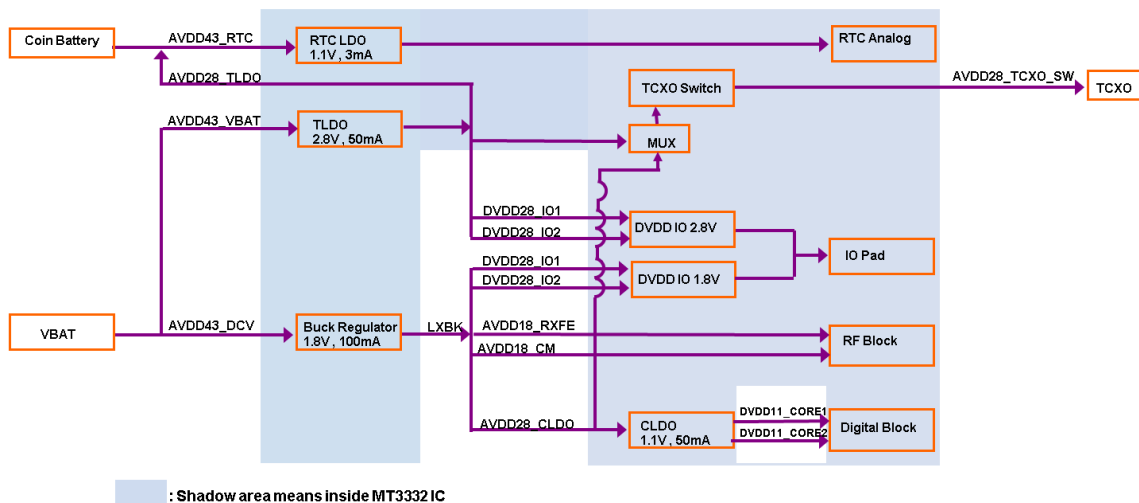
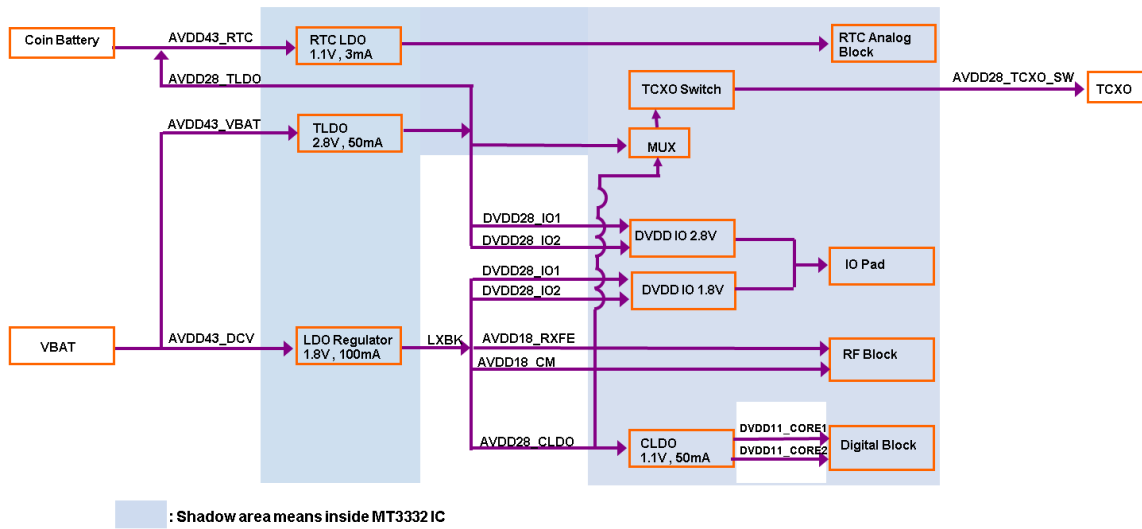
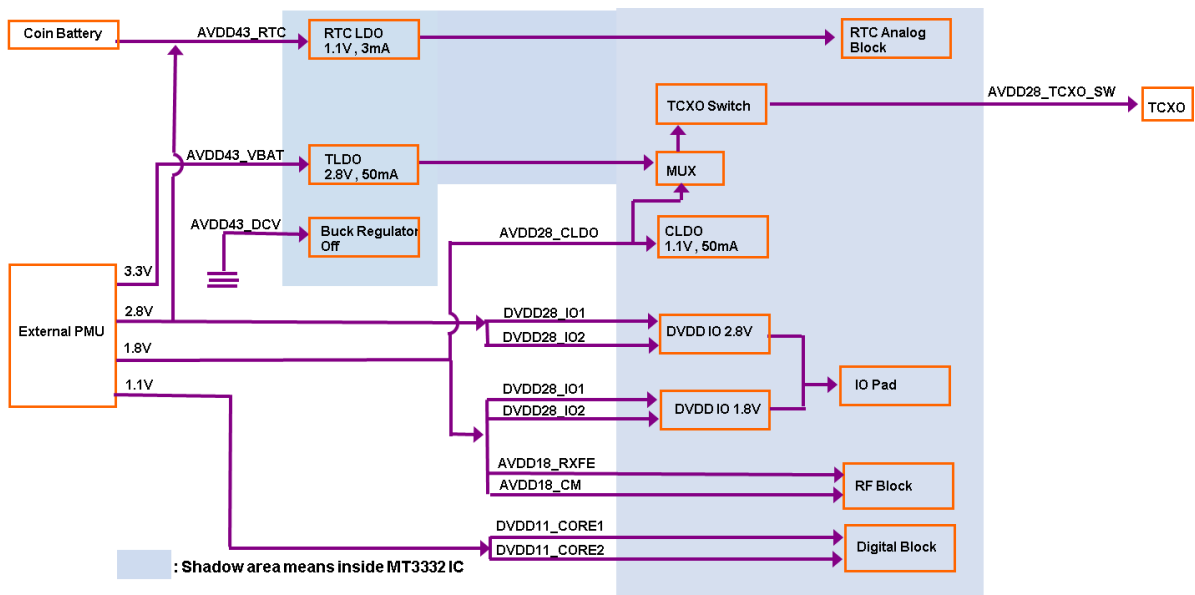

Figure 5-6: Power supply connection (low power)
Figure 5-7: Power supply connection (low cost)
Figure 5-8: Power supply connection (external LDO)
- Here are 3 power schemes: low power (Figure 5-6), low cost (Figure 5-7) and external PMU (Figure 5-8).
- In Figure 5-8, if 2.8V TCXO is used, AVDD28_CLDO should be open for saving power.